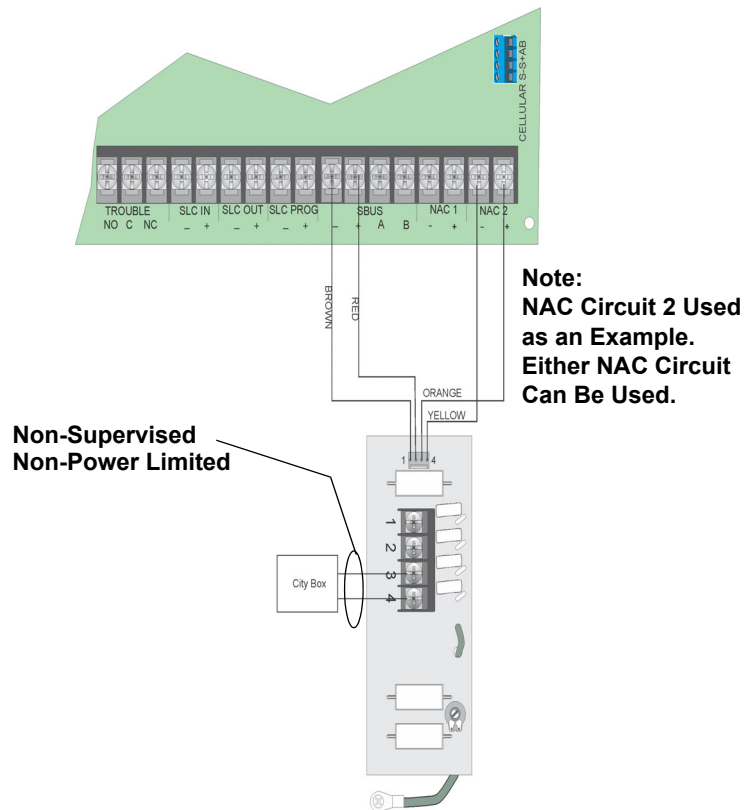

Figure 4.48 City Box Connection
2. Wire the 5220 to the control panel as shown in Figure 4.48. This drawing also shows how to connect the city box coil to terminals 3 and 4 on the 5220. Do not install an EOL resistor in the terminals of the NAC circuit used for this application.